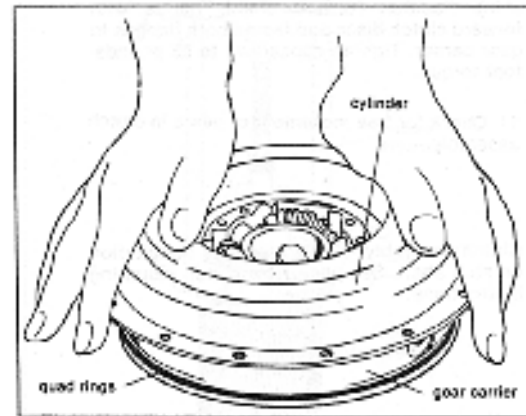

Figure 25. Pressing Cylinder on Bevel Gear Carrier
4. Without installing quad rings, place cylinders on bevel gear carrier by hand. (See fig.25) above. There must be a uniform gap between cylinders of .015 to .025". Check with a feeler gauge. If necessary, readjust return spring height and install locknuts.
- B. With forward side of gear carrier up, press cylinder on by hand (See fig. 25).